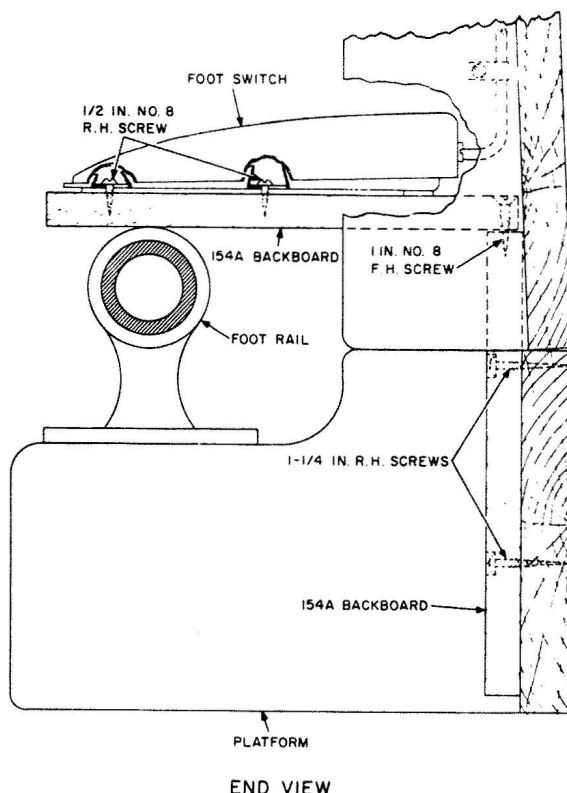

Fig. 6 — Mounting Foot Switch on Switchboards Equipped with Foot Rails
3.07 When switchboards are provided with foot rails, the foot switch may be mounted as shown in Fig. 6.